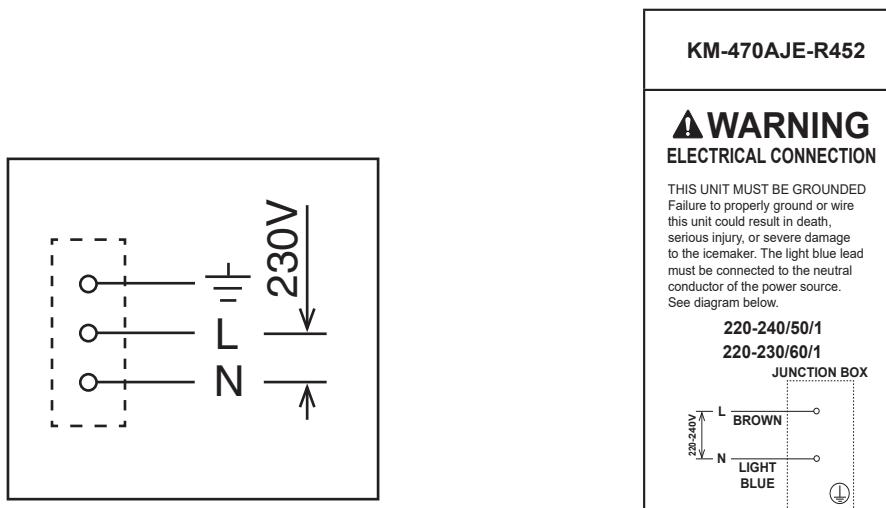

Fig. 4
- Electrical connection must be made in accordance with the instructions on the “WARNING” tag, provided with the pig tail leads in the junction box. See Fig. 4.